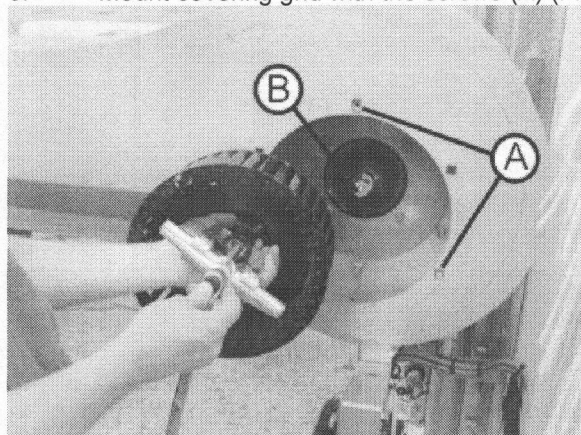

Fig. 073
3. Mount covering grid with the screws (A) (Fig. 073).
4. Loosen retaining screw (B) from impeller and remount without washer. Then screw down extractor and extract the impeller (Fig. 073).